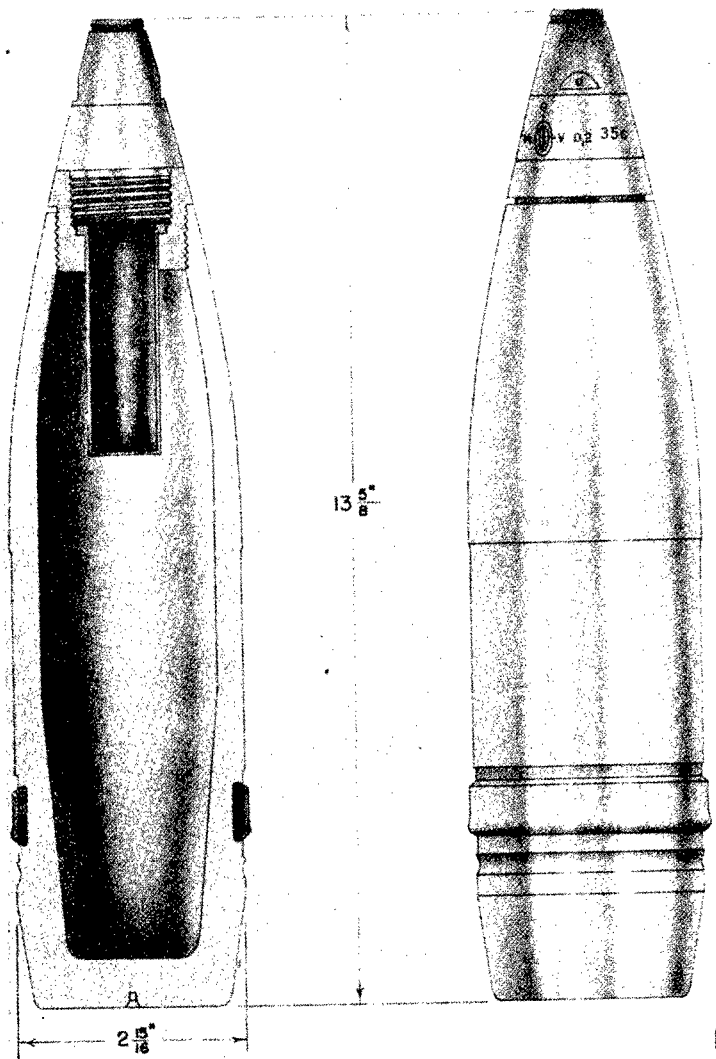

Figure 370—H. E. Projectile, Type 34, 75-mm Sprgr. Patr. KwK. (34)
GERMAN NOMENCLATURE: Sprgr. Patr. KwK (34) (Sprenggranate Patrone Kampfwagenkanone 34). (See fig. 370.)